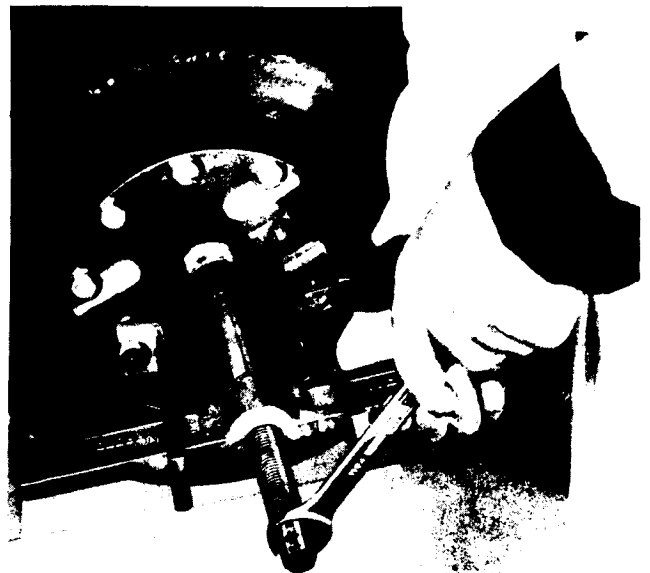

FIG. 32
31. Use suitable puller to pull assembled companion flange and parking brake drum from pinion shaft (Fig.32).